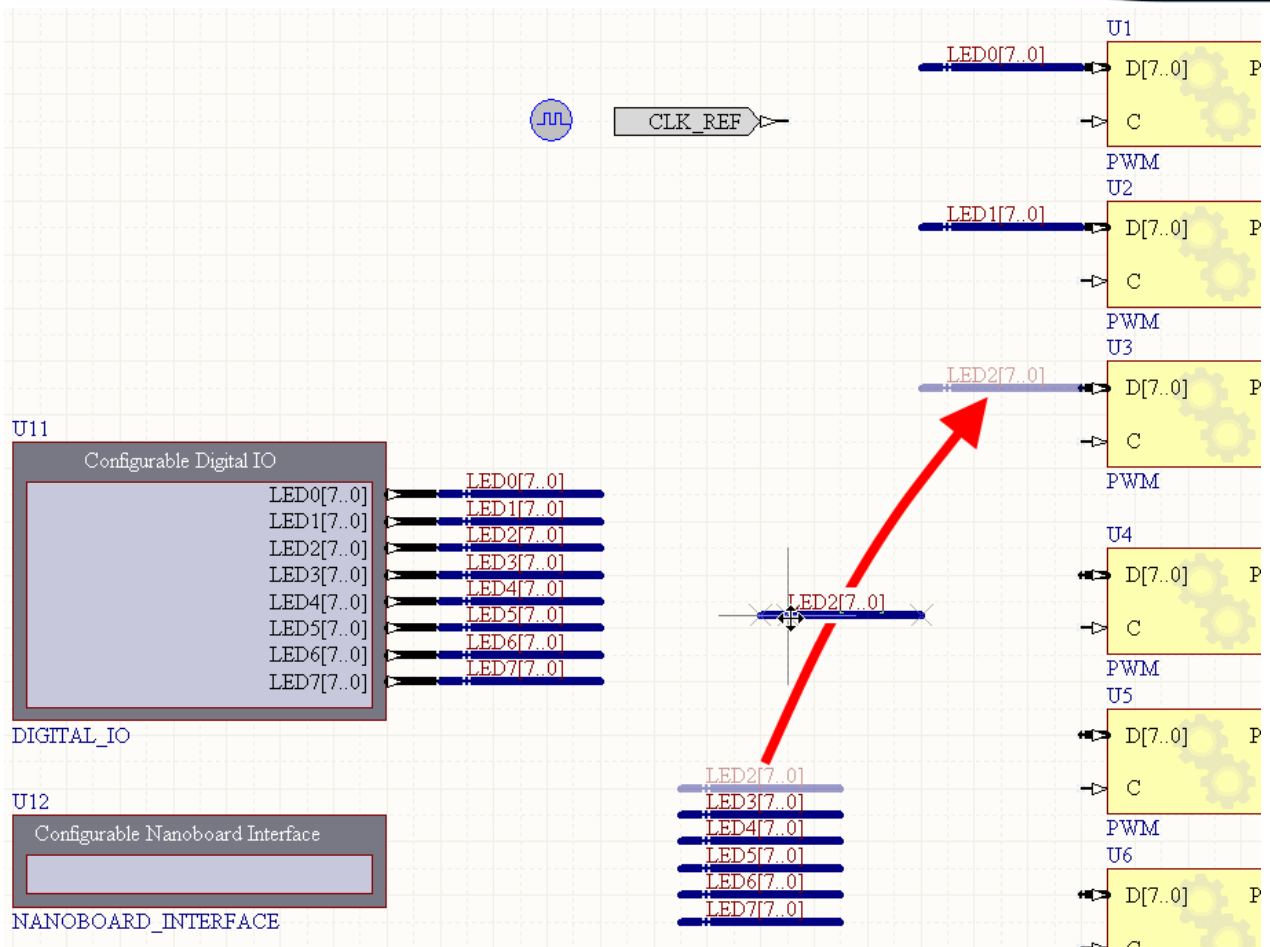

Figure 7. Select and move the copy of each bus+net label in turn.
27. Select the first bus+net label combination, then click and drag to position it so that the bus line touches the D[7..0] pin of the first PWM component, U1, as shown in Figure 7.
28. Continue to re-position the remaining seven bus+net label combinations, as shown in Figure 7.